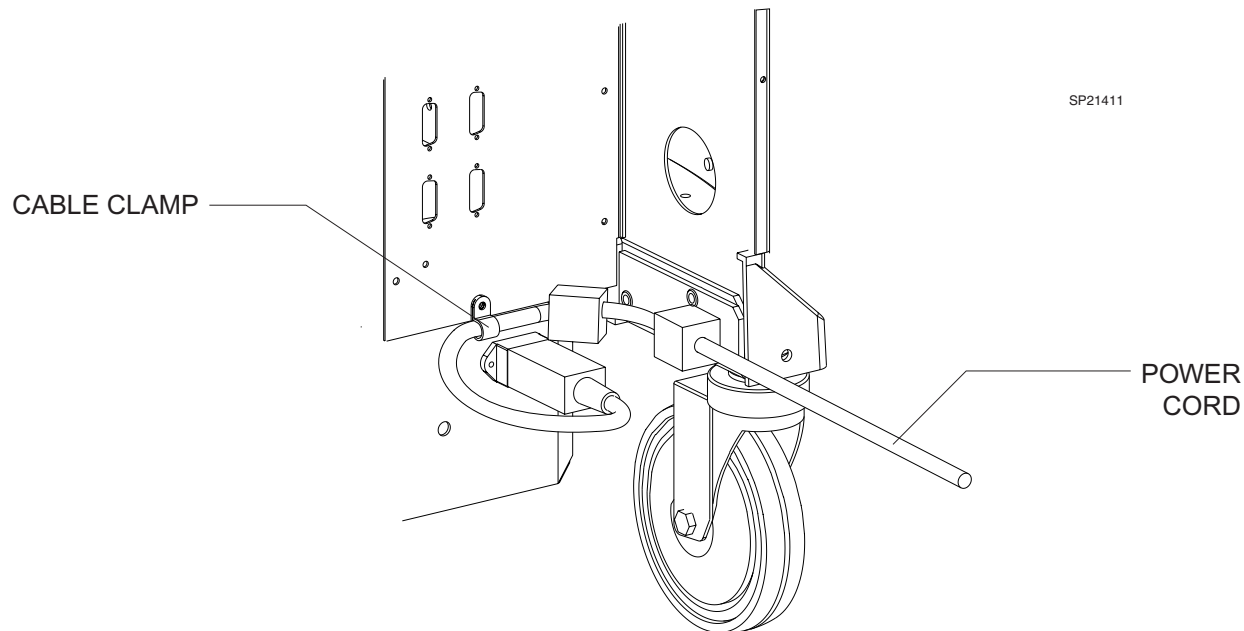

FIGURE 14. Power Cord Routing
6.30 Route the power cord's strain relief with a loop in a clockwise direction. The retaining clip shall be located $16.6 \pm \frac{1}{4}$ in. (5.25 in. diameter loop approx.) from the cord end, and secured to the Vitalbus Hub door using the mounting hole directly above the power cord socket as shown in Figure 14.